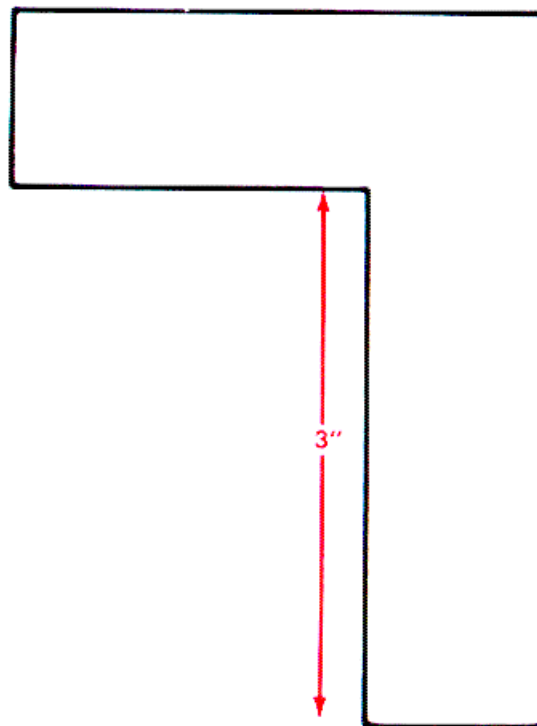
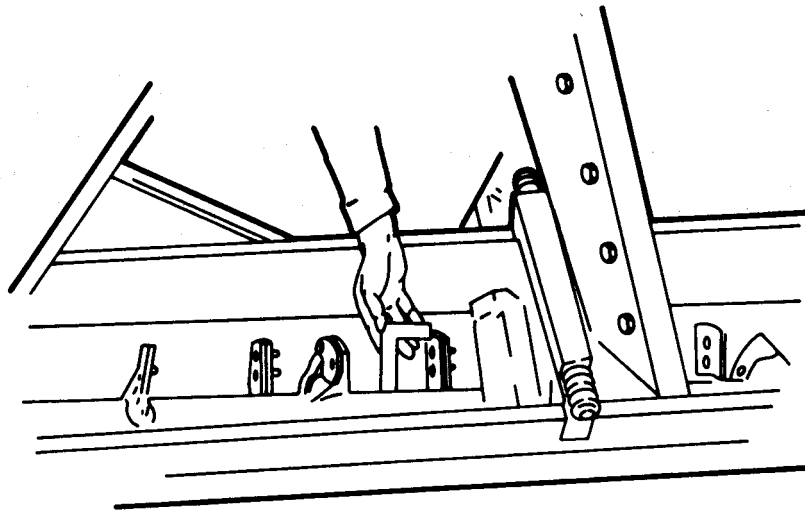

Figure 3-29. Wear Gage
Figure 3-30. Check Wear Blade Wear.
- (1) Using wear gage (fig. 3-29) place bottom edge of the long leg against the auger shaft and the end of the short leg against the wear blade, (fig. 3-30).
- (2) If the blade is worn below the lower edge of the short leg, the blade must be replaced. Report It to Organizational Maintenance.